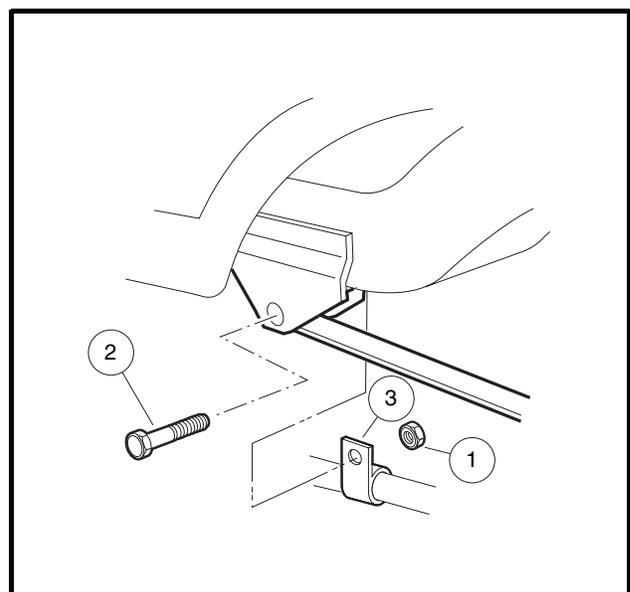

**Figure 6-19 Loosen Brake Cables**
4. Loosen the two jam nuts (1 and 3) on either side of turnbuckle (2) (**Figure 6-19, Page 6-11**). Note that the forward jam nut (1) is a left-hand thread. Thread each nut approximately 1/2 inch (12.7 mm) away from the turnbuckle.
5. Loosen turnbuckle (2) until the bolt (5) is free of the turnbuckle.
1. Insert the end of the new brake cable through the hole in the frame (**Figure 6-19, Page 6-11**). Push on the cable housing so the clips on the housing ends secure the housing in the hole.
2. Hold the bolt (5) and the equalizer bracket (4) in the upright position and slip the cable head through the hole on top of the bracket. Pivot the equalizer to the horizontal position to capture the cable heads in the equalizer.